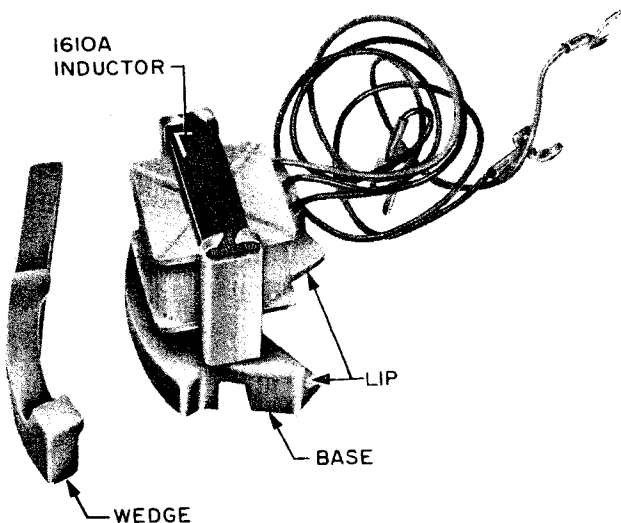

Fig. 4 – 1610A Inductor
**2.07** Where no ringer is used and tip party identification is required, a 1610A or a 1635A inductor shall be installed in the PRINCESS set as shown in Fig. 4, 5, 6, and 7.